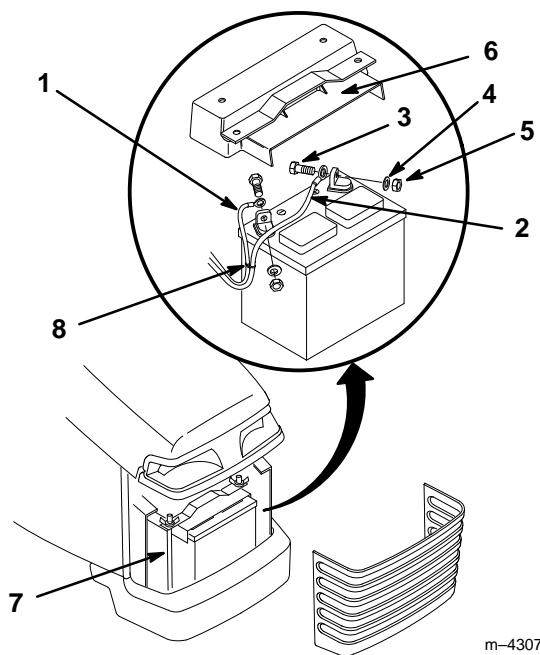

Figure 53
3. Remove the battery shield (Fig. 53).
4. Disconnect the negative (black) ground cable from the battery post (Fig. 53).
5. Disconnect the positive (red) cable from the battery post (Fig. 53).
1. Place the battery onto the chassis (Fig. 53).
2. Using the bolt, washer and locknut, connect the positive (red) cable to the positive (+) battery post (Fig. 53).
3. Using the bolt, washer and locknut, connect the negative (black) cable to the negative (-) battery post (Fig. 53).